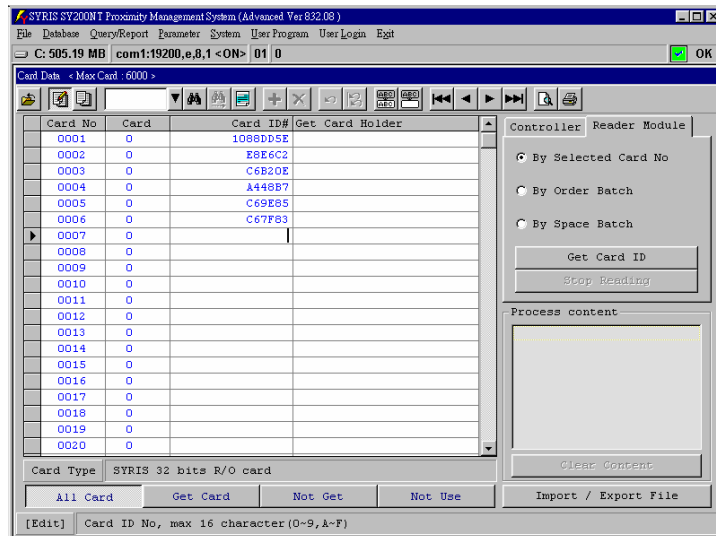

Fig.5-6 Direct Key In Card ID
2. Move record to process card no and click "Card ID#" column, as Fig.5-6.